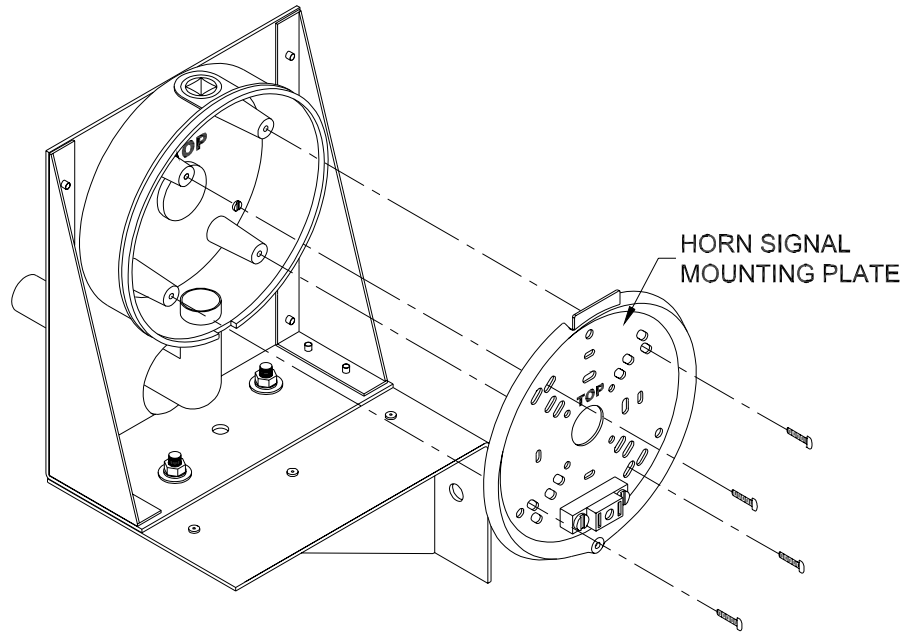

Figure 14 Horn Signal Mounting Plate Attachment
13. Align the horn signal mounting plate with the back box so that the word “TOP” on the horn signal mounting plate and the back box should be oriented in the same direction and the screw hole on the bottom edge of the horn signal mounting plate should be directly over the gap in the back box gasket as seen in figure 14.